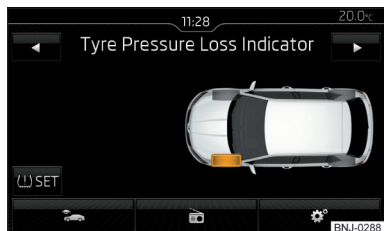

Fig. 148
- Tap on the function  **SET** Tap on» Fig. 148.
When a warning light  in the instrument cluster appears, the affected tyre can be displayed on the infotainment » Fig. 148.